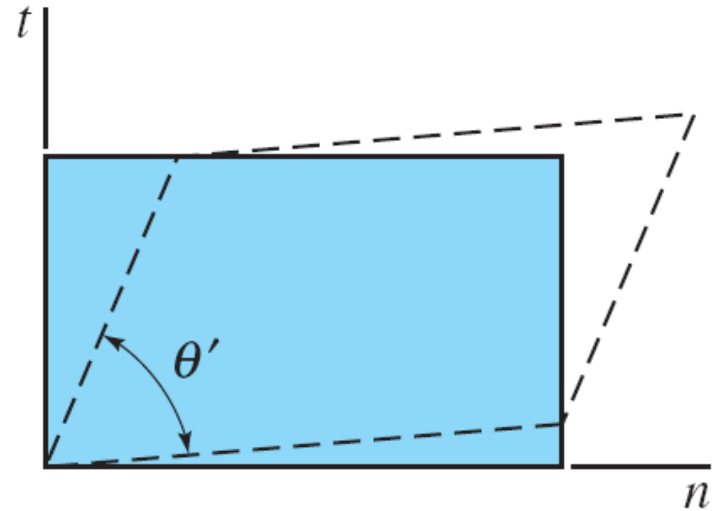

FIGURE 3.3 Distortion of a rectangular plate.
- Shearing strain is positive if the right angle between the reference lines decrease (see Figure 3.3)